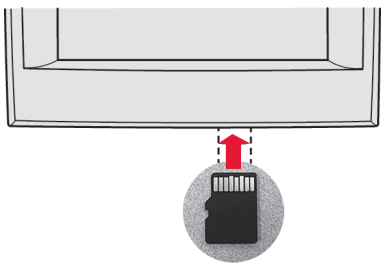

Fig. 269.
7. After the file is saved, remove the microSD card from the adapter and connect it to the thermostat. See Fig. 269. Then select the “Dealer Information” option on the thermostat.
1. Slide card into the bottom of thermostat. See Fig. 269.